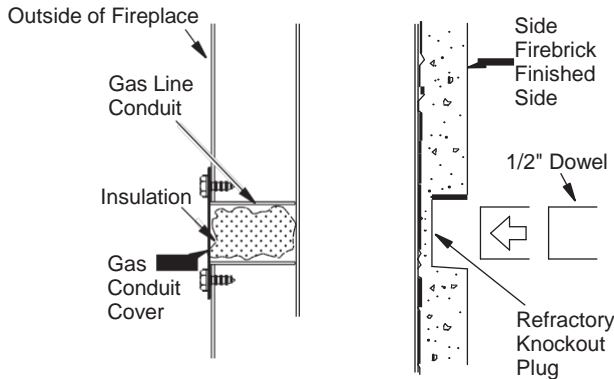

Figure 19 - Gas Line Knockout
1. Remove knockout indentation on refractory or firebrick wall located above refractory hearth floor. Knockout indentation must be firmly tapped with any solid object, such as a 1/2" dowel, until it is released. Remove fragmented portions of refractory (see Figure 19, page 13).